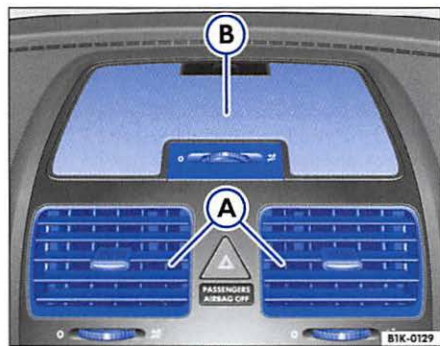

Fig. 77 Central air outlet (A) and air outlet (B) for indirect ventilation
In manual operation, press the button  to obtain draft-free ventilation. The ventilation is indirect, if you close the air outlets ⇒ fig. 77 (A) and open air outlet (B) using the thumb wheel. ◀